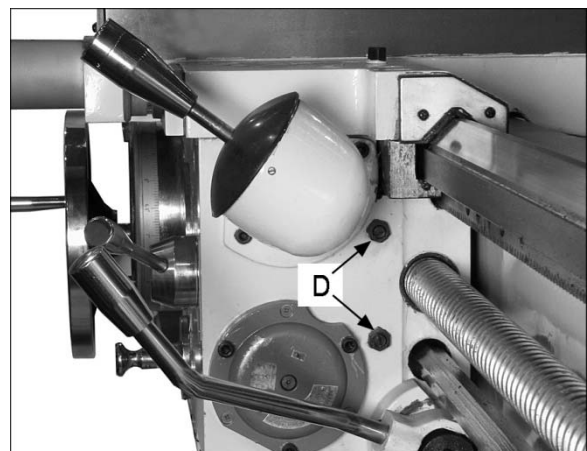

Figure 38 – Half Nut gib adjustment
**Half Nut** – Gib screws are located on the right side of the apron (D, Figure 38). Loosen the jam nuts and rotate the screws clockwise until any backlash is corrected. Then retighten nuts.